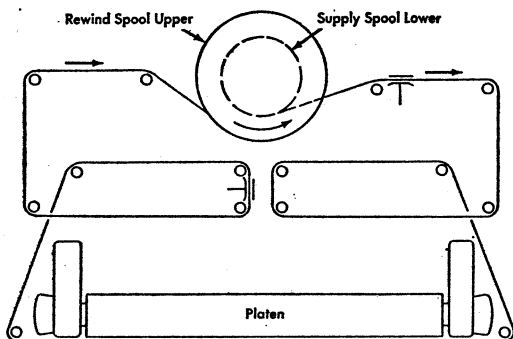

Figure 9. Ribbon Threading Diagram
4. Unwind sufficient ribbon from the spool and thread it toward the right through the deflector rolls, ribbon guides and brakes on the auxiliary carriage, but by-pass the stationary brake (Figure 9).